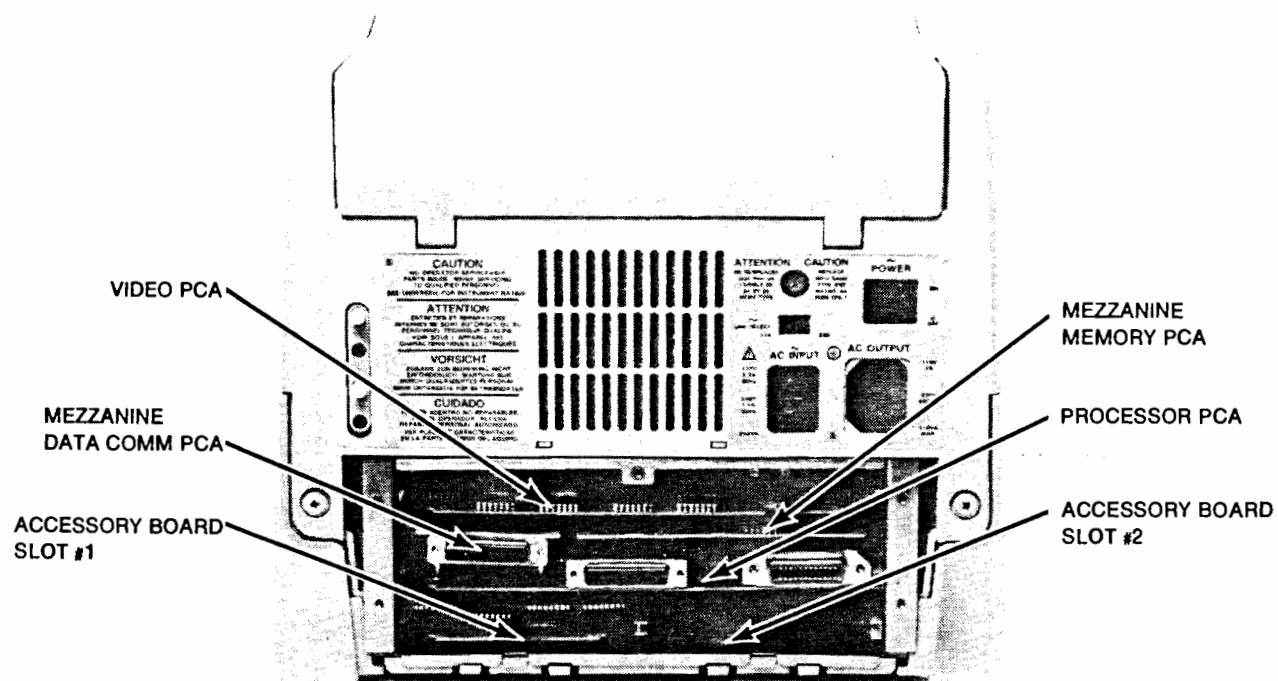

Figure 8-4. Card Cage Board Organization
2. The boards are located in the card cage as follows (see figure 8-4):